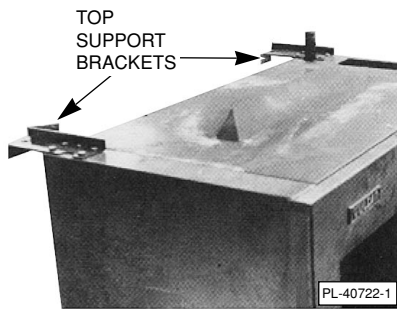

Fig. 5
2. Assemble two support brackets to the top rear corners of the cheesemelter. Remove four bolts on each corner; install brackets under bolts (Fig. 5).